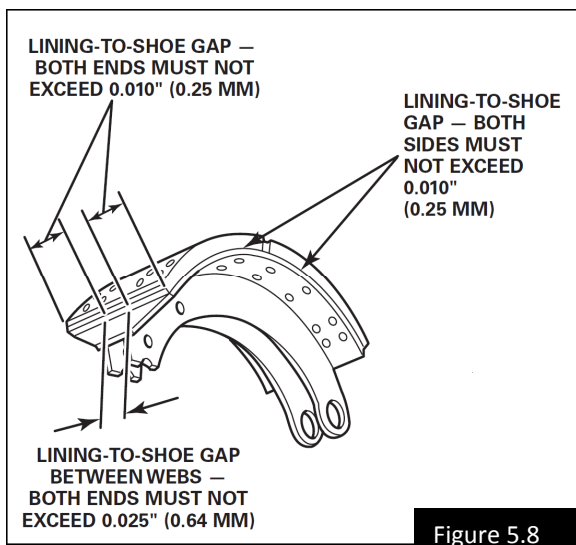

Figure 5.8
15. Check the gap between the shoe and lining along the sides and the ends. This should not exceed 0.25 mm but between webs 0.60 mm gap is acceptable. Figure 5.8